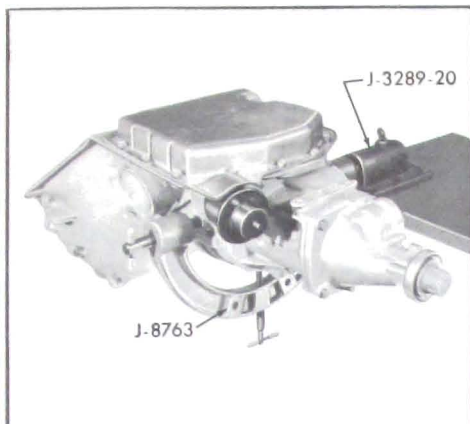

Figure 5-100
b. Place transmission on a CLEAN work bench and use CLEAN tools during disassembly. Provide CLEAN storage space for parts and units removed from transmission. An excellent working arrangement is provided by assembling the transmission to Holding Fixture J-8763. See Figure 5-100.
1. If transmission has been removed from car, assemble transmission in Fixture J-8763. See Figure 5-100.